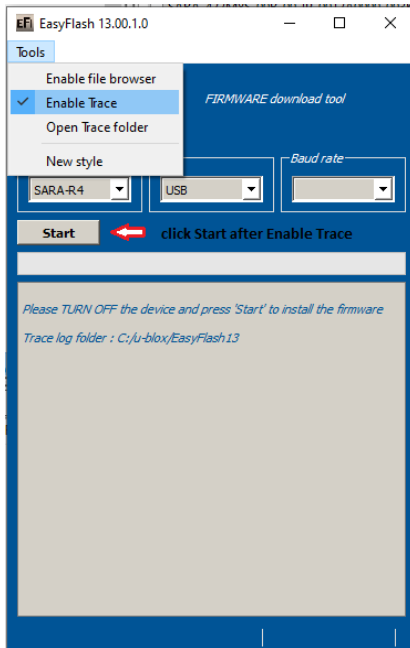

Figure 7: Setting up EasyFlash and starting the FW installation
4. Select in pull-down menu, see Figure 7
5. Click **Tools > Enable trace**, see Figure 7. This will create a log per flash attempt for trouble shooting.
6. Click **Start** , see Figure 7.